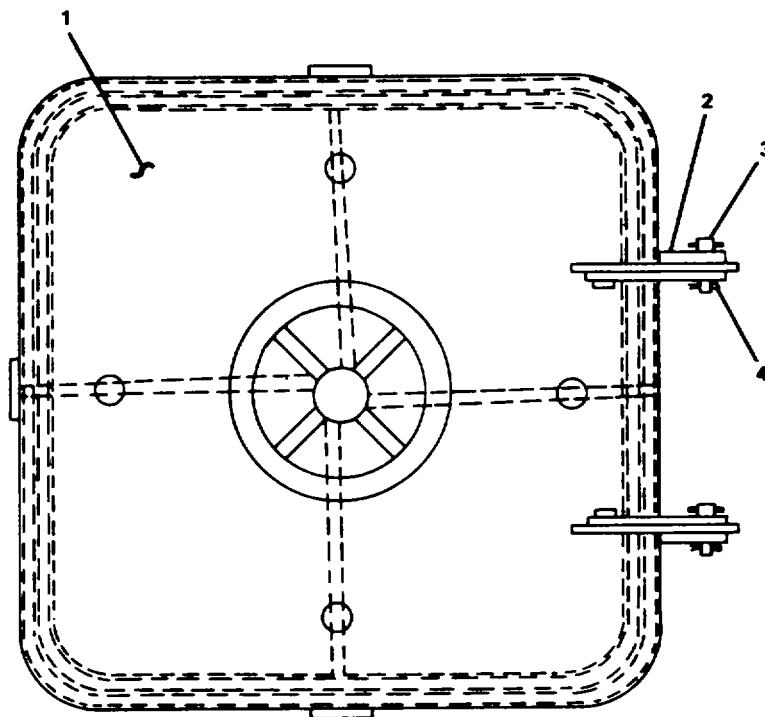

Figure 2-37. Replace Watertight Hatch. Quick Action.
- a. Place hatch (1, Figure 2-37) in position on frame.
- b. Install pin (3) in hinge blade (2).
- c. Secure pin (3) using cotter pins (4).